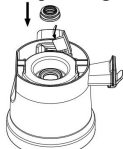

Fig 12b
- After Cleaning, please put it back to the center hole. The small ribbed surface should be should face upward (Fig.12b) Make sure the groove of the seal ring well fit in the squeezing bowl.